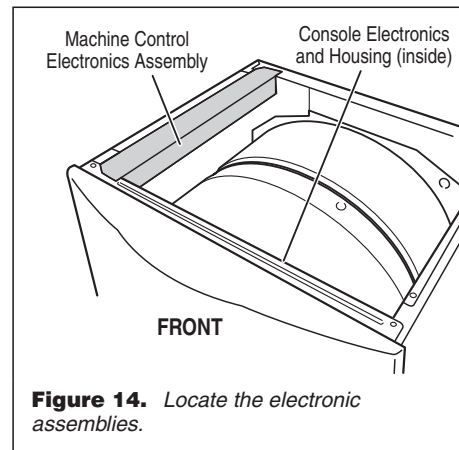

Figure 14. Locate the electronic assemblies.
2. Remove the top panel to access two electronic assemblies: the Console Electronics and Housing, and the Machine Control Electronics. See figure 14.